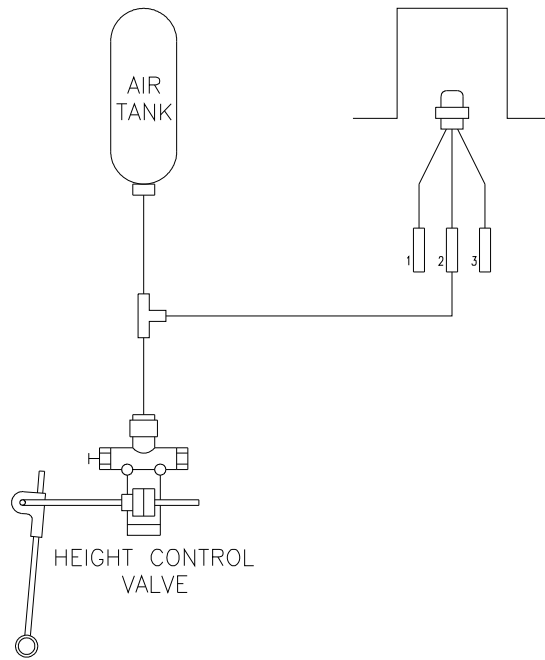

Figure 7
- b) Locate the air hose that runs to the air tank. Cut the air hose in a convenient spot along the inside of the chassis side rail. Connect the supplied “T” fitting and connect the two cut ends. Run a 3/8” air hose from the “T” fitting, up the inside rail of the tractor chassis, and connect it to the union fitting labeled “2” from the cab. (See figure 7)